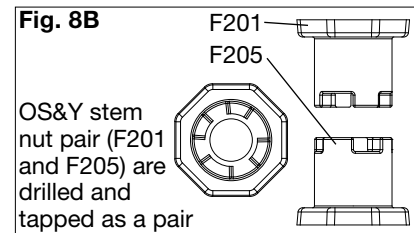

Fig. 8B
**NOTE:** The stem nut pair are keyed with different sized lugs. Be sure to align the lugs in the correct location! (See fig. 8B)